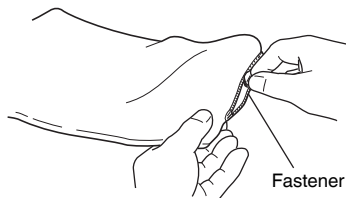

Fig. 10
(1) Hold the clasp, open the thrusting mouth of the dust bag, and pull it off from the body.
(2) Open the fastener (Fig. 10) and dump the sawdust.